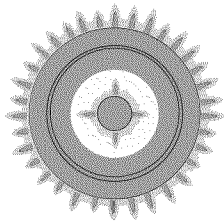

Figure 16: A lit double ring burner
3. Visually check that both inner and outer rings for the Double Ring burner are lit (See Figure 16). Once lit, push in the control knob and turn counterclockwise out of the Lite position and adjust to the desired flame size.